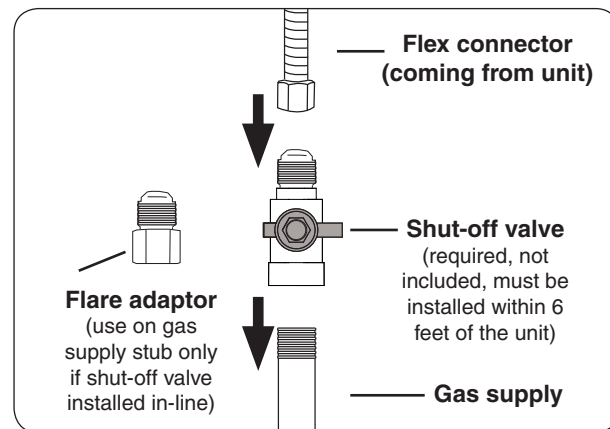

Fig. 20-3 Connecting to a gas line
- Connect the flex connector to the shut-off valve (see Fig. 20-3). Tighten securely.
- Install the supplied flare adaptor to the gas supply using a pipe joint compound resistant to all gasses (see Fig. 20-3). Tighten securely.
- Connect the flex connector to the flare adaptor (see Fig. 20-3). Tighten securely.